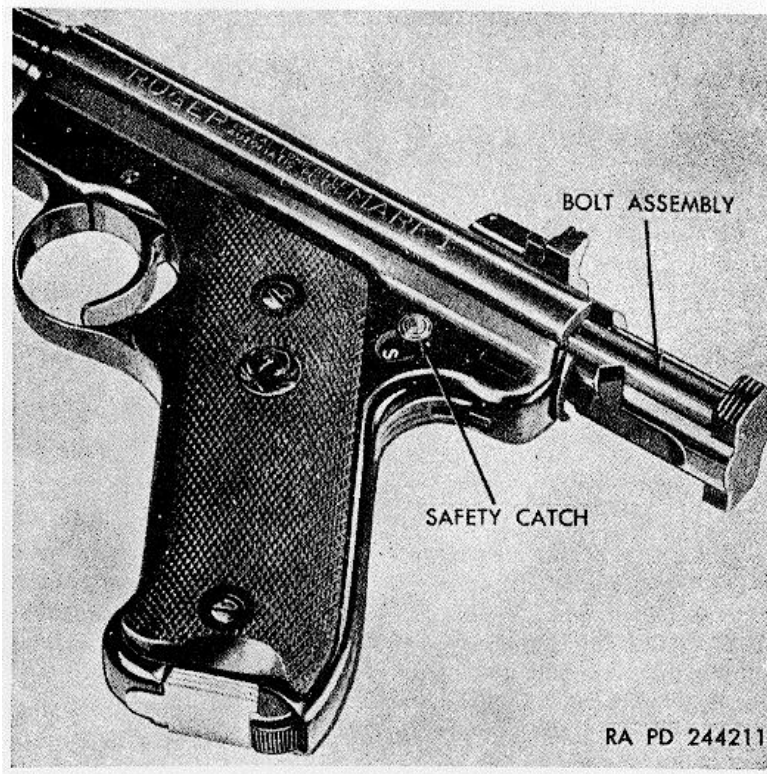

Figure 17. Bolt assembly cocked and safety catch in safe position (Ruger).
- (1) The safety catch (fig. 17) is located on the upper left side of the grip frame behind the grip. S and F markings indicate the safe. and fire positions. A spring loaded detent ball holds the safety catch in place on the frame. The safety catch action is positive to hold the hammer from being released by trigger action.
- (2) Pressing the safety catch up with the left thumb puts the pistol on safe. Pressing the safety catch down with the left thumb allows the pistol to be fired.
- (3) The bolt assembly will be held in the cocked position (fig. 17) by pressing the safety into the upward position. This locks the safety into a notch on the bolt.
- (2) To load the first cartridge into the chamber, insert loaded magazine, and pull back on the serrated lugs on the rear of the bolt assembly (fig. 17) until the bolt is in rear position. The recoil guide spring assembly will return the bolt to battery.
- (3) To inspect barrel chamber, withdraw the bolt as described in b above and, while holding in this position, press safety catch upward as described in a above.